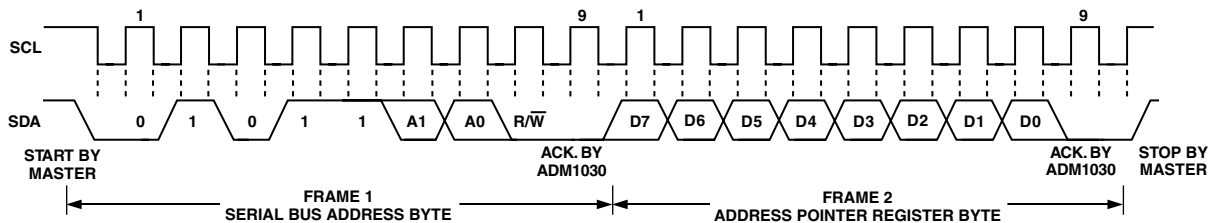

Figure 2b. Writing to the Address Pointer Register Only
as before, but only the data byte containing the register address is sent, as data is not to be written to the register. This is shown in Figure 2b.
2. If the Address Pointer Register is known to be already at the desired address, data can be read from the corresponding data register without first writing to the Address Pointer Register, so Figure 2b can be omitted.